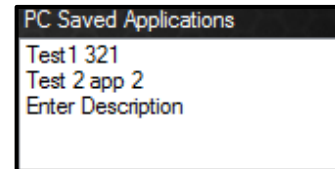

Figure 8.7-4: New PC Application
2. A new application, "Enter Description," will appear under PC Saved Applications (Figure 8.7-4).